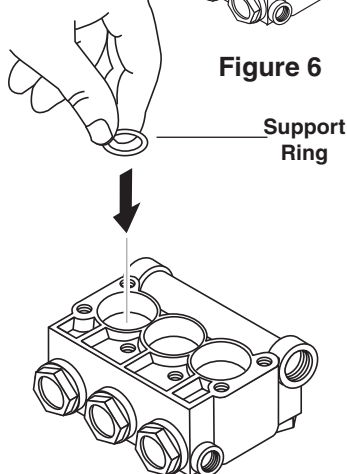

Figure 7
3. Re-install the U-seal high pressure packing and Delron support ring and press firmly into cylinder (Figure 6) until they will go no further, using the proper insertion tool piston and bushing (items 13 and 14 from Kärcher Tool Kit). (Figure 7)